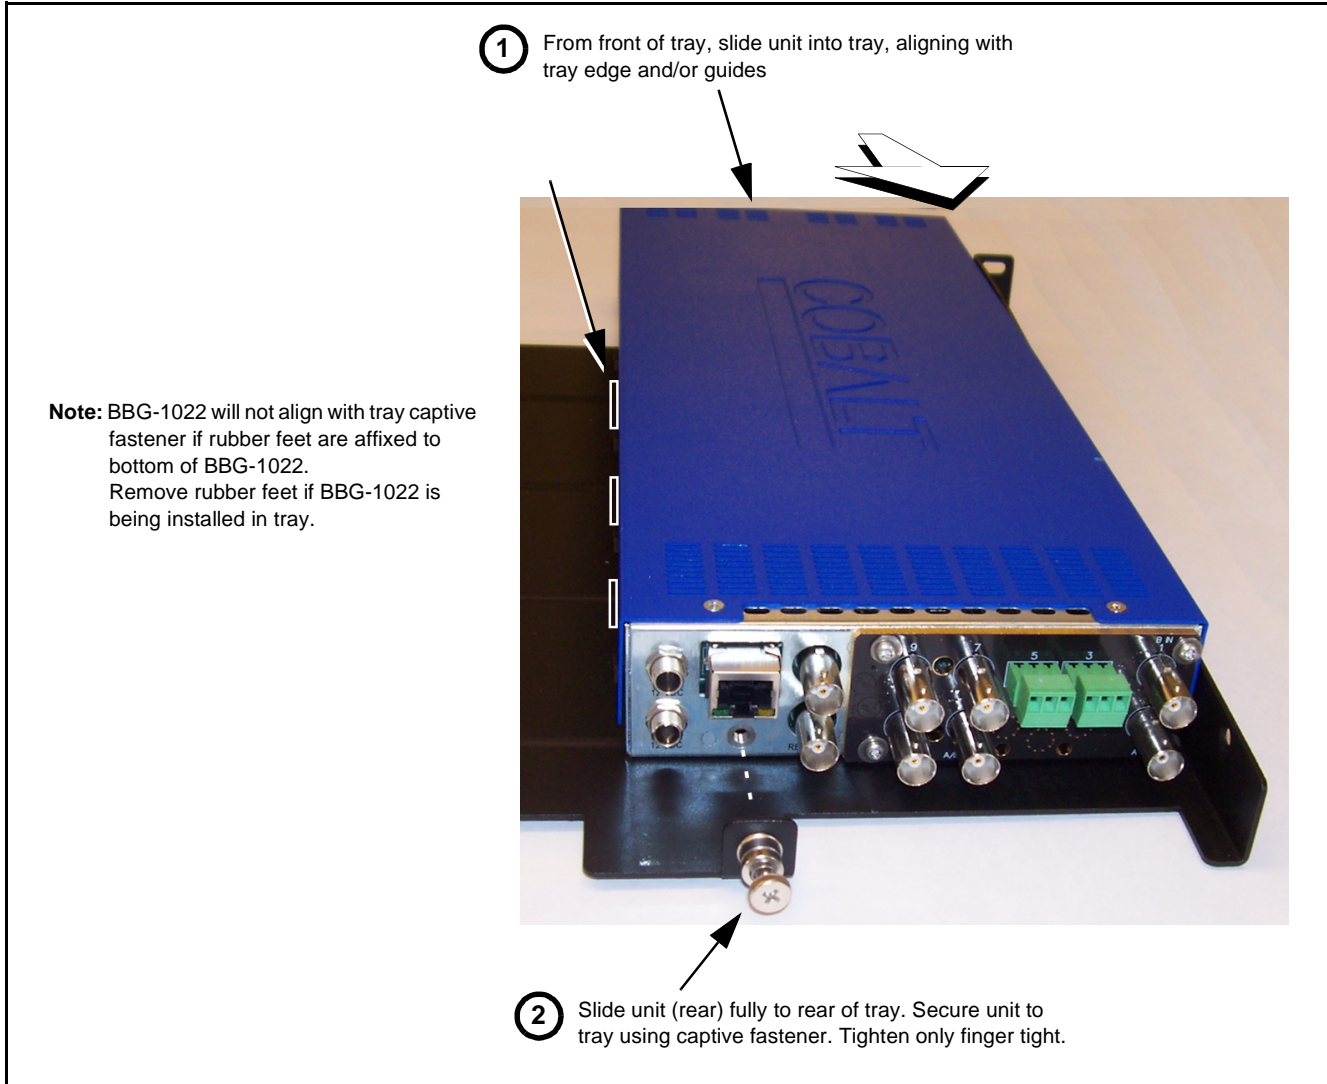

Figure 2-1 Mounting BBG-1032-EMDE Using Frame Mounting Tray
1. If installing BBG-1032-EMDE using optional frame Mounting Tray BBG-1000-TRAY, install BBG-1032-EMDE in tray as shown in Figure 2-1.